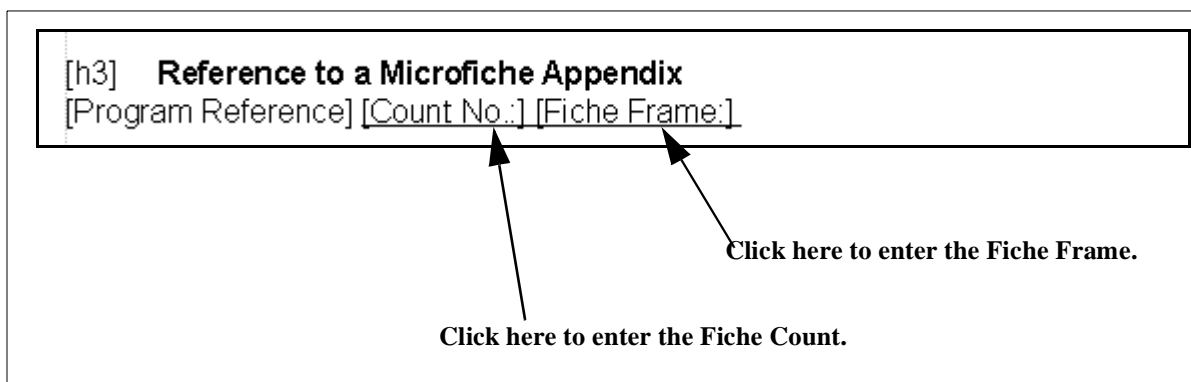

Figure 4-10 Adding Microfiche Information
5. Click after the [Count No.:] label and type the Fiche Count (see Figure 4-10). This gives the number of microfiche for a computer program listing appendix; MPEP 608.05; 37 CFR 1.96(c).
6. Click after the [Fiche Frame:] label and type the Fiche Frame (see Figure 4-10). This gives the frame of microfiche for a computer program listing appendix, or the frame